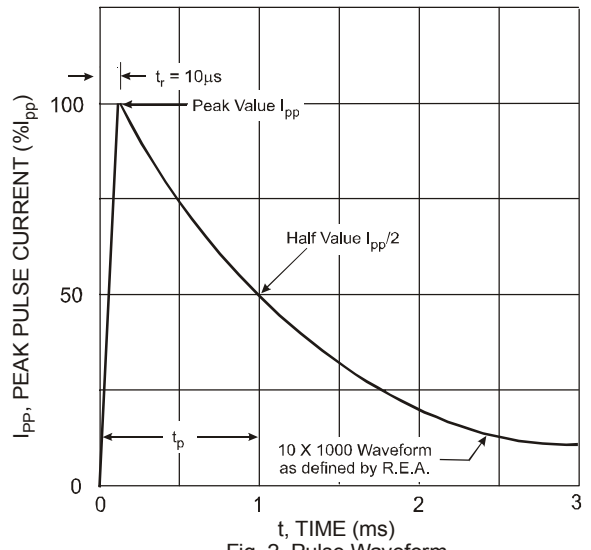

Fig. 2 Pulse Waveform
- Non-repetitive current pulse per Figure 2 and derate above T_A = +25°C per Figure 2.